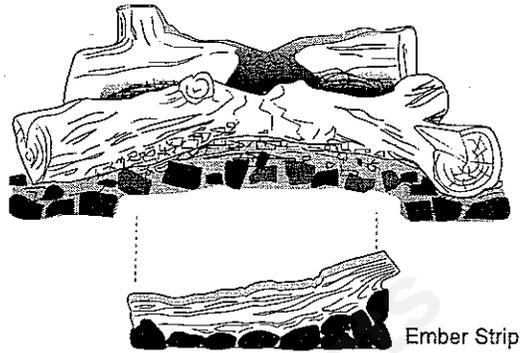

FIGURE 20. The log set and ember strip
1. Remove the packing material from around the log set. Grasp the log set firmly in two hands and pull it up and away from the firebox, raising the left side first. **Do not use the small center log as a handle;** it is not designed to support the weight of the lower logs and may be damaged if mishandled. Should the log set become damaged in this way, the fireplace will not operate correctly. See Fig. 20
2. Remove the ember strip and set it aside for now. Fig. 20